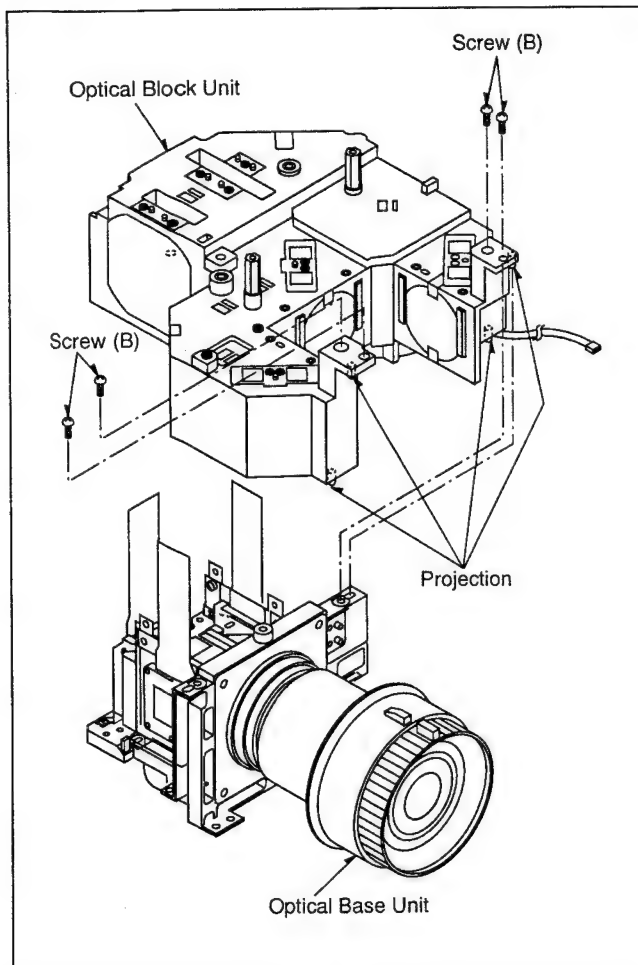

Fig. O4
1. Remove 4 screws (B) as shown in Fig. O4.